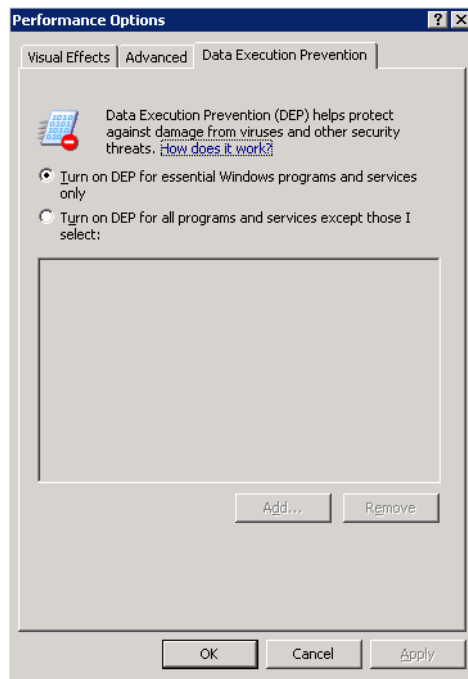

Figure 2-4 DEP tab
3. In the **Performance** box on the **Advanced** tab, click the **Settings** button then click the Data Execution Prevention tab to show the dialog shown in figure 2-4.